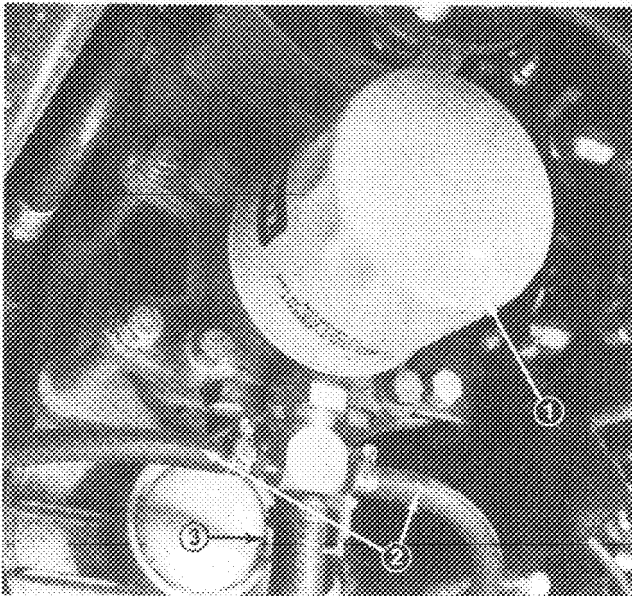

Figure 44
3. Clean the area around the hydraulic oil filter and remove the filter (Fig. 44).